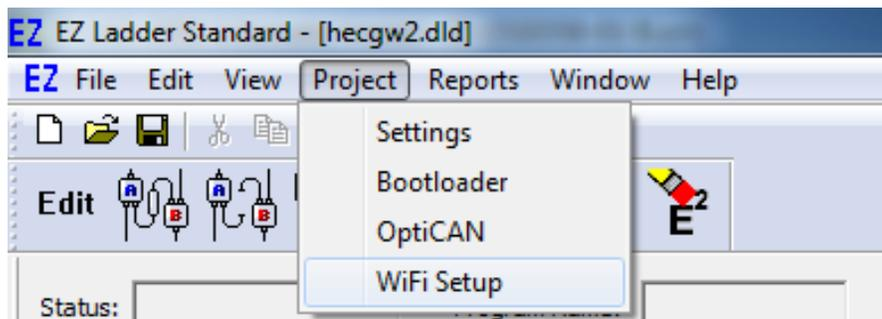

Figure 2-28 - Access WiFi Setup
4. From the menu at the top, select **PROJECT** then select **WiFi Setup**. Refer to Figure 2-28.